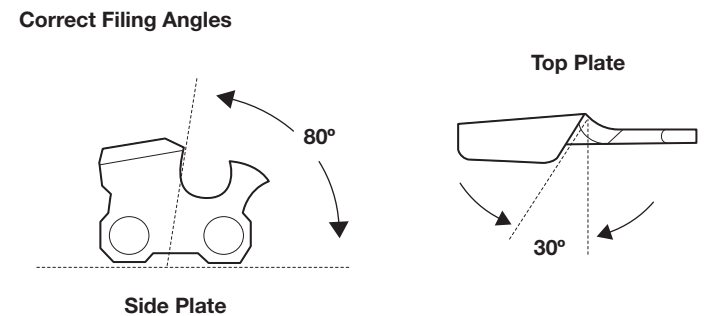

Fig. 41
- Apply a few firm strokes to each tooth. When filed correctly, the top plate will be at a 30° angle and the side plate will be at an 80° angle (Fig. 41). Using the correct file and file holder will automatically produce the correct angles.